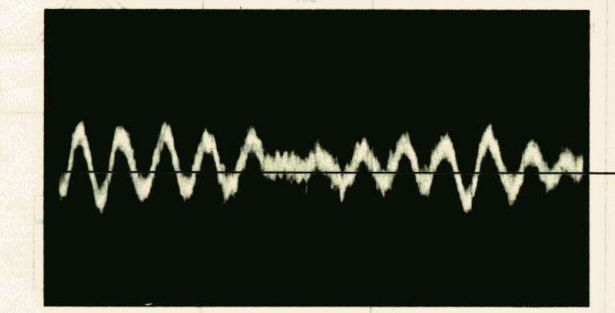

Fig. 7
2. Connect the oscilloscope to main board test point TP9 (TE).
4. Turn RV502 slightly clockwise (tracking gain drops) and obtain a waveform with a fundamental wave (waveform has large waves) as in Figure 7.